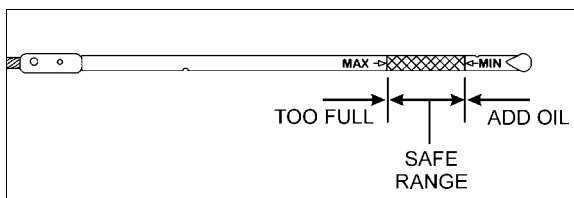

FIGURE 13: ENGINE OIL LEVEL DIPSTICK
8. Locate the A/C compressor belt tensioner pressure releasing valve (if so equipped). Turn pressure releasing valve handle counterclockwise in order to release pressure in belt-tensioner air bellows and loosen belts (Figure 13). Remove the belts.